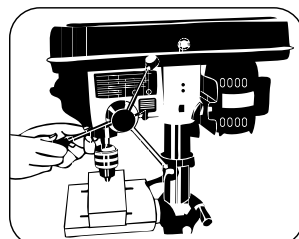

FIGURE 8.7
- Screw the feed handles in the holes on the pinion shaft (Figure 8.7)